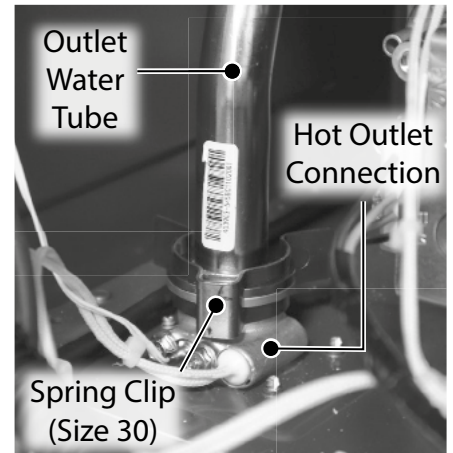

Figure 7 - Remove spring clip from outlet water tube
- 20** Locate and remove the spring clip (size 30) securing outlet water tube to hot outlet connection as shown in Figure 7. Place spring clip aside in a safe place for reinstallation.